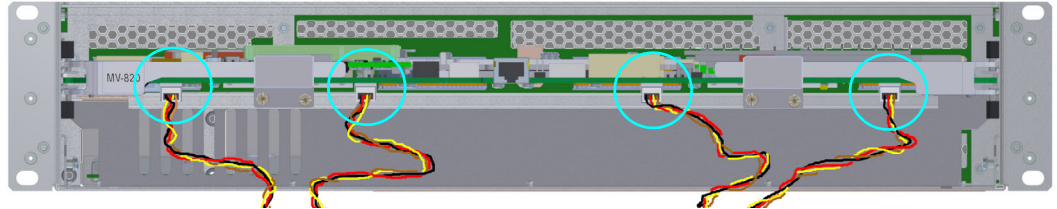

Figure 19 Fan Supply Wires Connected to front of the Main Module
1. Check that the fan supply wires are all connected to the front edge of the MV-820 Main Module. See Figure 19.